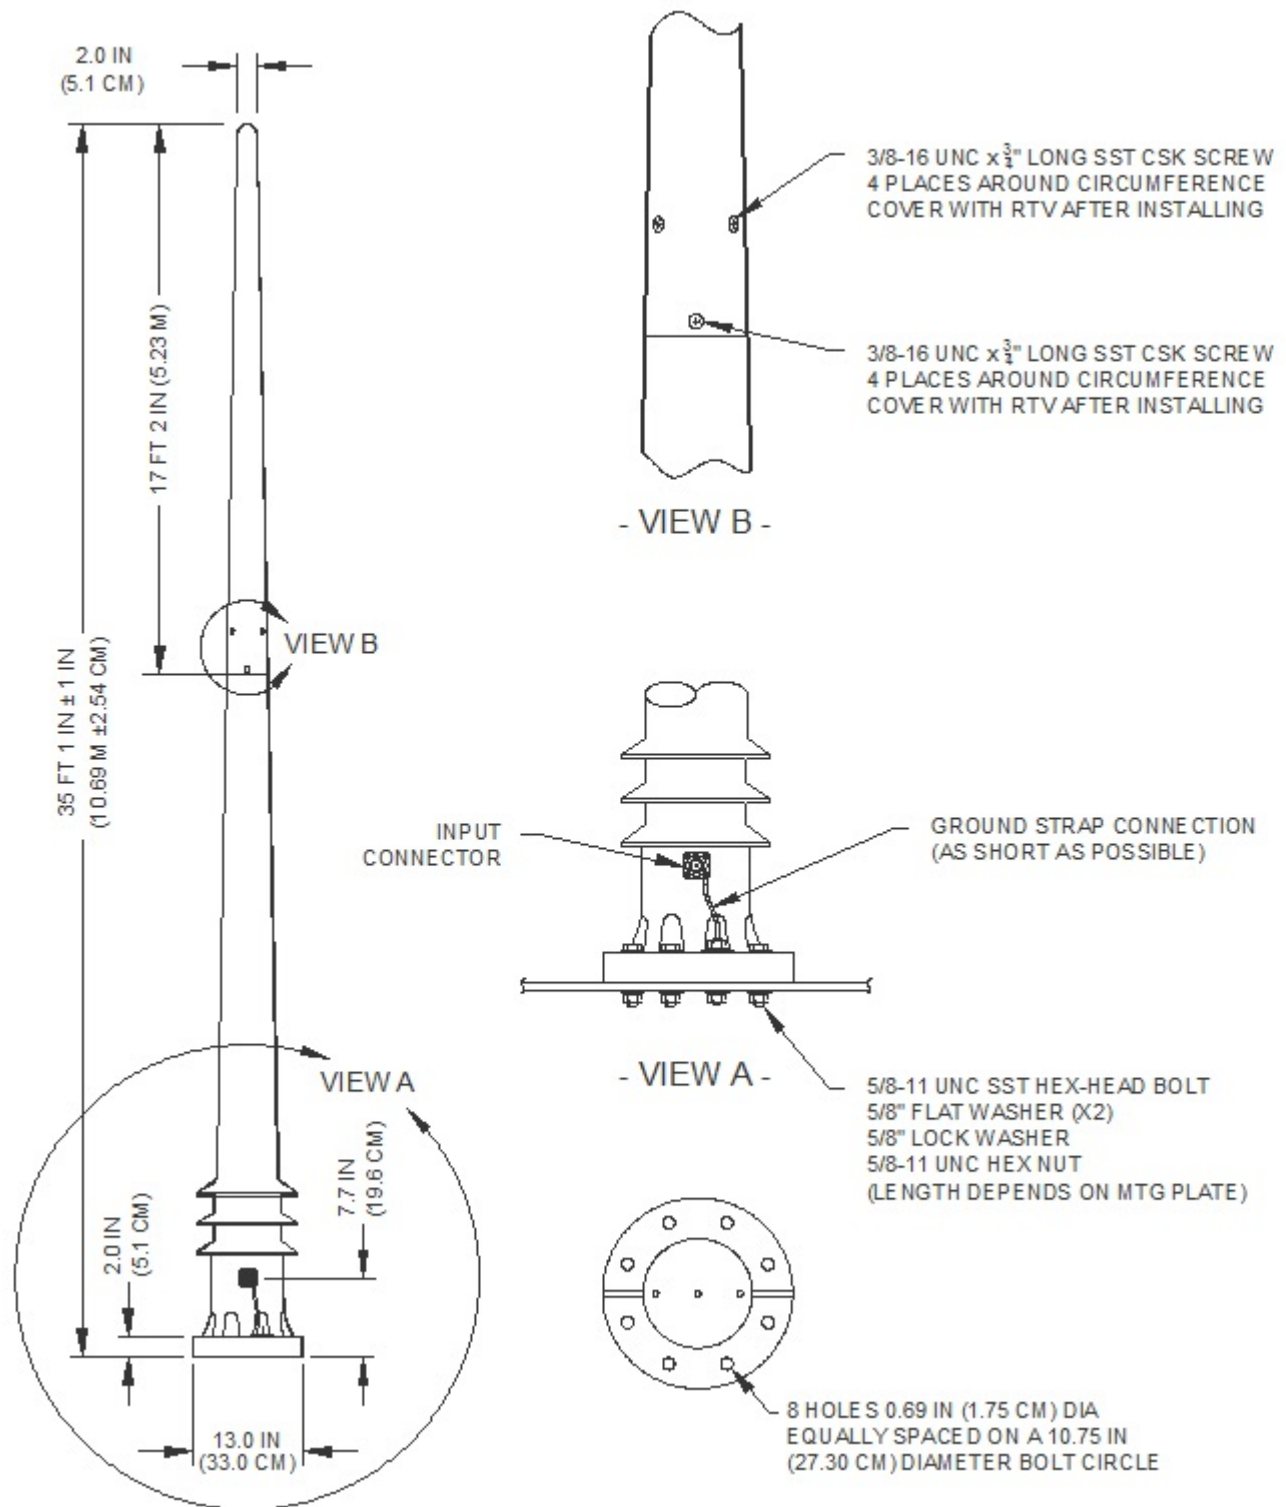

Figure 4-1 - Outline Drawing
- 4-4 FOUNDATION. The antenna should be installed vertically on a mounting plate that has bolt holes matching those in the antenna base (see figure 4-1).
h. Make sure the ground strap supplied with the antenna is connected to one of the mounting bolts directly below the input connector on the antenna as shown in Figure 4-1.